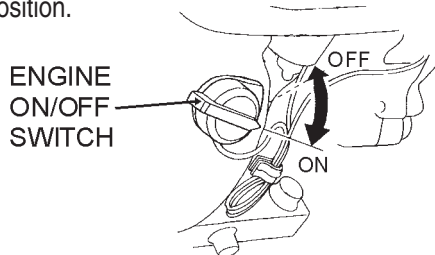

Figure 31. Engine ON/Off Switch (Off Position)
2. Turn the console **engine ON/OFF switch** (Figure 31) to the **OFF** position.